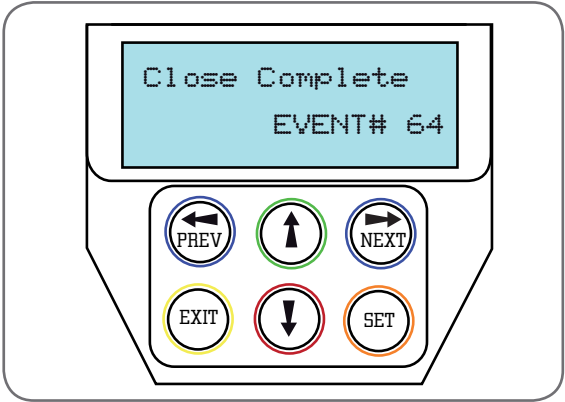

Fig D.5
DCB-05V2 keeps a record of the last 64 events that have taken place. The events include the type of drive cycles executed, obstruction detection, various faults, power failures etc. When this tool is selected, the screen displays the last event that occurred (**Fig. D.5**). Press NEXT or PREV to view each event. The "EVENT#" field shows the sequence of the events, with (1) being the first and (64) being the last. The example shows that the last event was a close cycle which succeeded in closing the gate. When finished viewing the events, press EXIT.